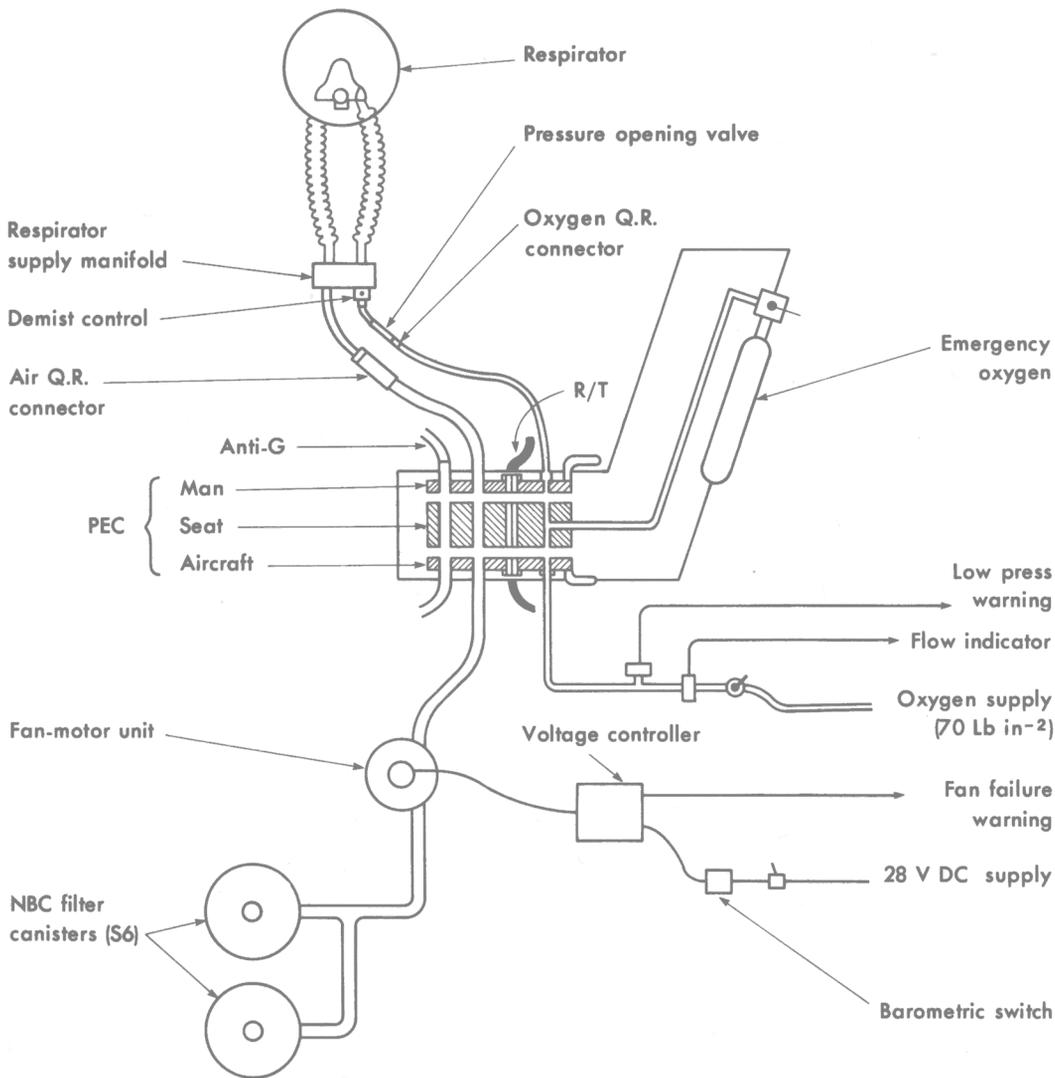

Fig 8. Schematic Diagram of Air/Oxygen Supplies to AR5 in a Typical Combat Aircraft
b. Filtered Air Supply. As the Portable Ventilator cannot be used in fast jet aircraft, a fixed filter/fan assembly is mounted on the airframe or ejection seat of this type of aircraft to supply filtered clean air to the AR5. Figure 8 is a schematic diagram of the filtered air and medium pressure oxygen supplies to the AR5 in a typical high performance combat aircraft. Air from the cabin is drawn through two standard canisters (canisters NBC S6 No 2 Mk 1) by a fan driven by a motor powered from the aircraft 28 volt DC supply (Emergency battery bus bar). The clean air is delivered by way of flexible butyl antikink hose and a suitable connector system to provide automatic separation during the ejection sequence. In some aircraft the air ventilated suit supply port of the Personal Equipment